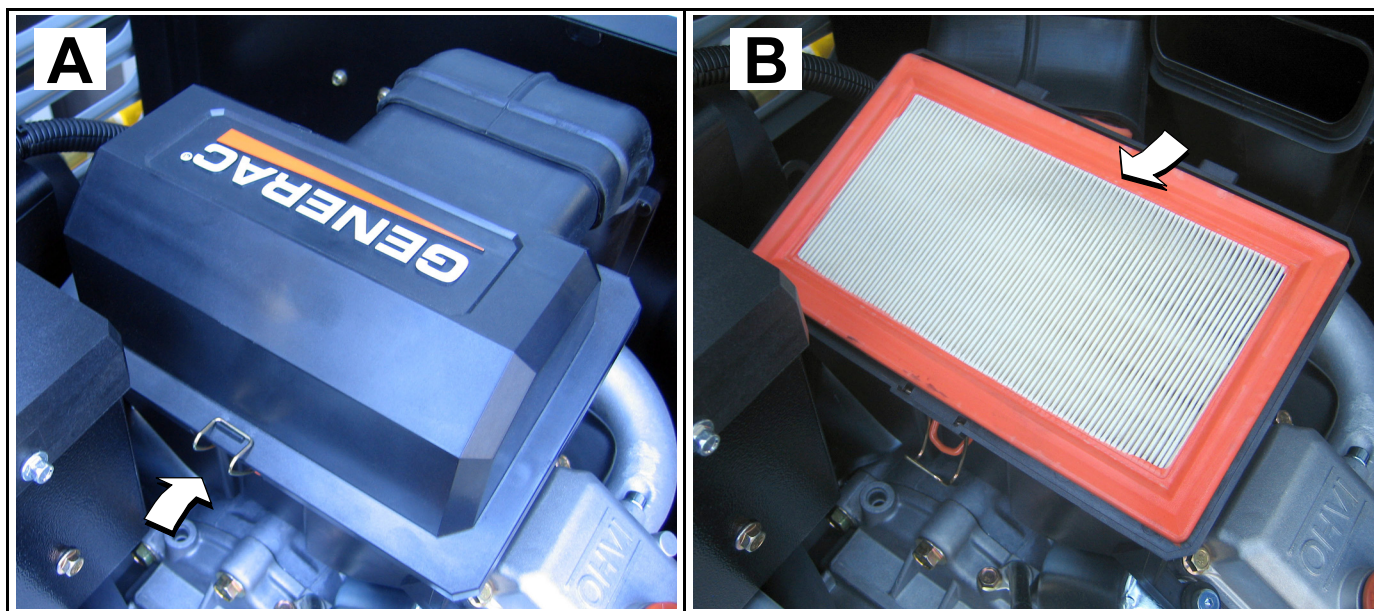

Figure 4-4. Replace Engine Air Filter
2. Disengage cover clip and remove air cleaner cover. See A of Figure 4-4.
5. Install **new** air filter. See B of Figure 4-4.